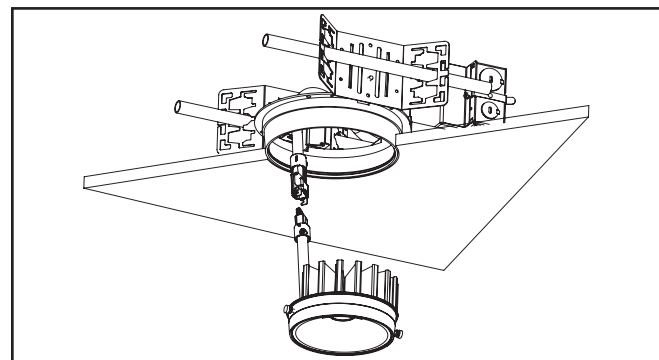

Figure 5.
2. Remove LED engine from protective packaging. Align upper and lower portion of Powerplug® Luminaire Disconnect and push together. Make sure locking lever hook of Powerplug® Luminaire Disconnect (Figure 5.).